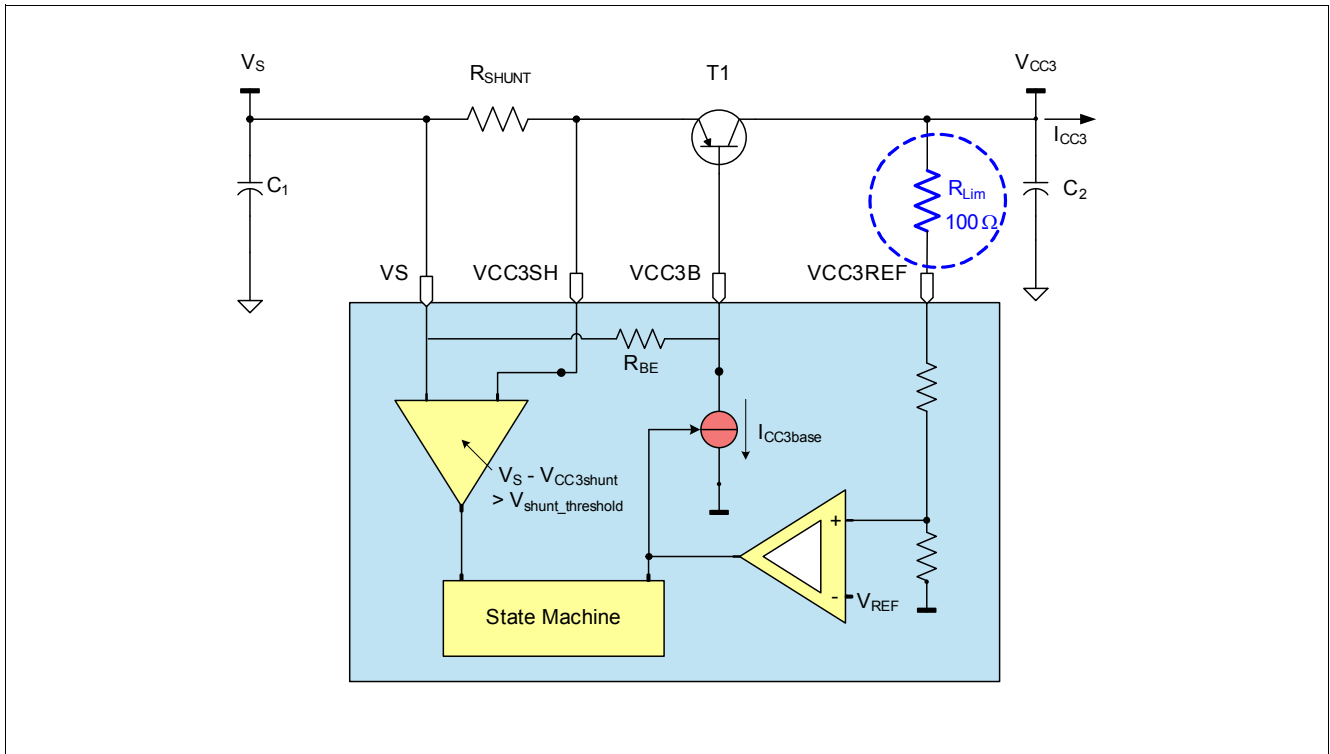

Figure 19 Protecting the VCC3 against inductive short circuits when configured as an independent voltage regulator for off-board supply
*Note: If the VCC3 output voltage is supplying external off-board loads, the application must consider the series resonance circuit built by cable inductance and decoupling capacitor at the load. Sufficient damping must be provided (e.g. a 100Ohm resistor between the PNP collector and VCC3REF with 10uF capacitor on collector - see also Figure 19).*